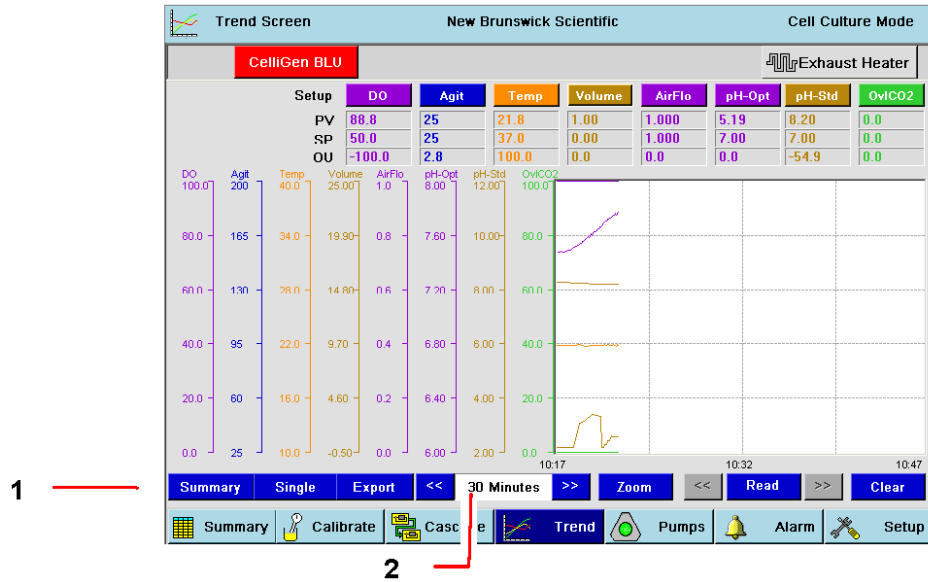

Fig. 52: Trend Graph
9. A sample trend graph is shown below (see Fig. 52 on p. 65) and (see Tab. on p. 66) to acquaint yourself with the Trend Graph buttons at the bottom of the graph.